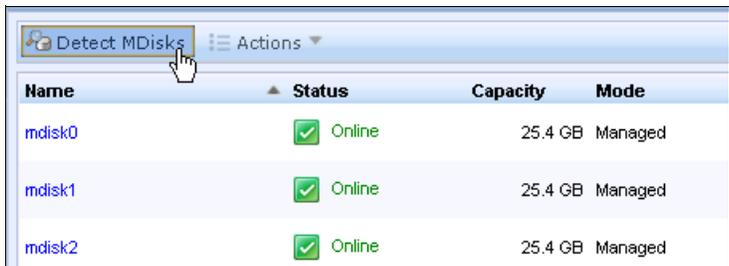

Figure 11-29 Detect MDisks action
3. You can discover managed disks (MDisk) from the External panel. Select a controller in the left panel and click **Detect MDisks** button to discover MDisks from this controller, as shown in Figure 11-29.